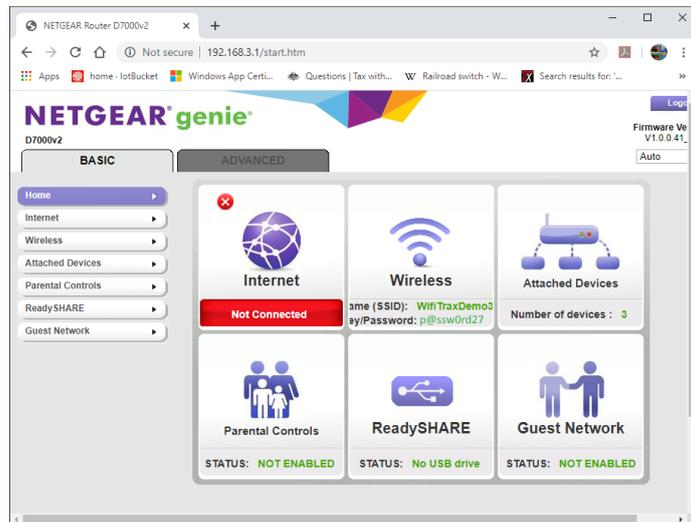

Figure 104 A typical router admin page
- (5) Once you have given the credentials, you will see the admin page. A typical one is shown in Figure 104. Find the “Attached Devices” option and click on it.